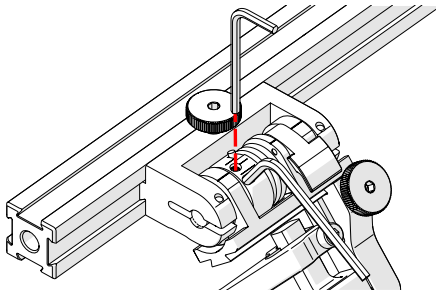

Fig. 159 - Insert hex tools
4. Place the 2 mm hex wrench into the force adjustment screw (Fig. 159).